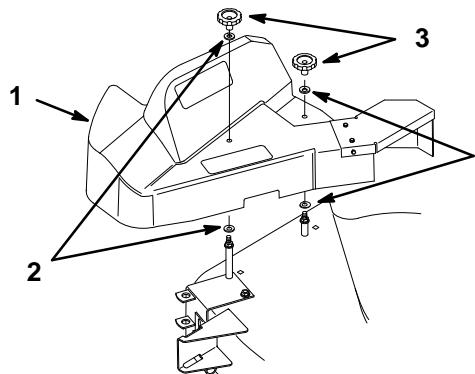

Figure 28
1. Remove the blower belt cover by removing (2) knobs and (4) washers (Fig. 28).